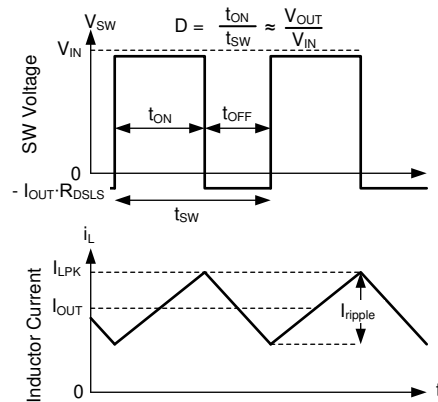

图 8-14. SW Voltage and Inductor Current Waveforms in Continuous Conduction Mode (CCM)
The following operating description of the LMR36503 refers to 节 8.2 and to the waveforms in 图 8-14. In CCM, the LMR36503 supplies a regulated output voltage by turning on the internal high-side (HS) and low-side (LS) switches with varying duty cycle (D). During the HS switch on-time, the SW pin voltage, V_{SW} , swings up to approximately V_{IN} , and the inductor current, i_L , increases with a linear slope. The HS switch is turned off by the control logic. During the HS switch off-time, t_{OFF} , the LS switch is turned on. Inductor current discharges through the LS switch, which forces the V_{SW} to swing below ground by the voltage drop across the LS switch. The converter loop adjusts the duty cycle to maintain a constant output voltage. D is defined by the on-time of the HS switch over the switching period: